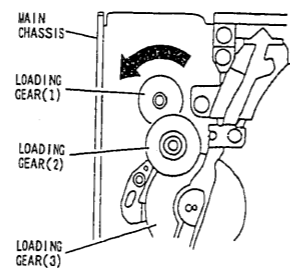

Fig. 3-12
- (19) Turn loading gear (1) in the direction of the arrow with your fingers to set the VM-E10A to the eject state. (See Fig. 3-12)